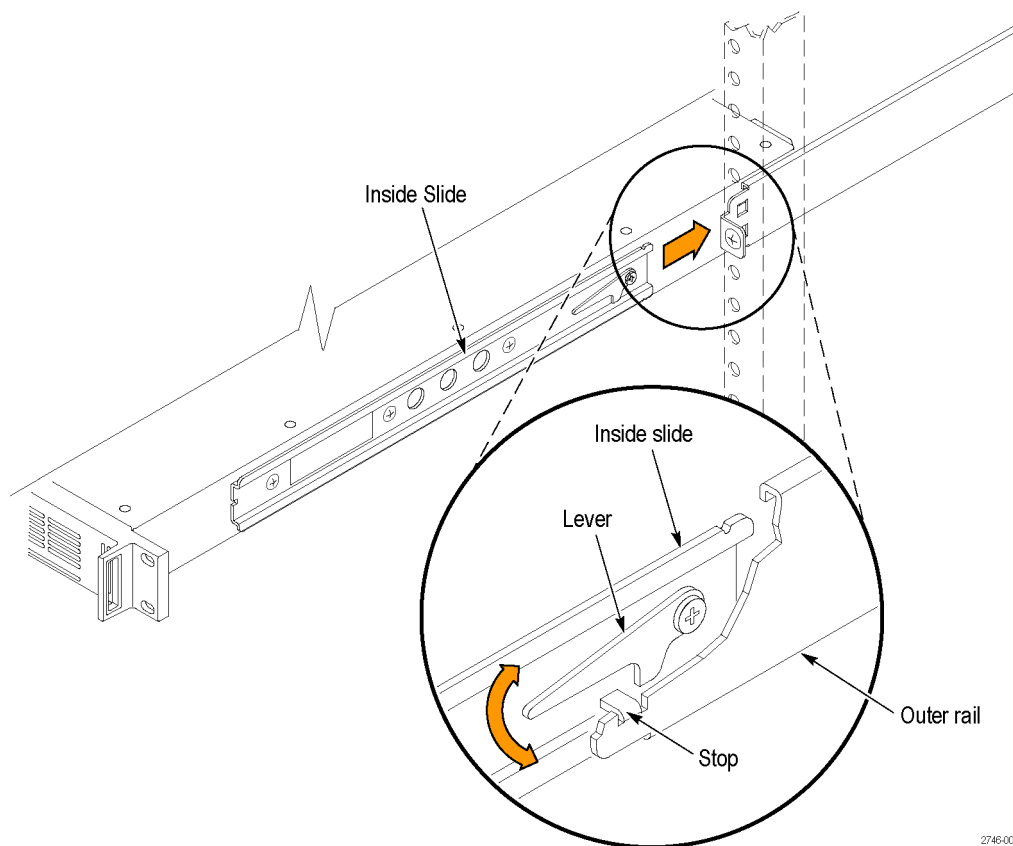

Figure 1: Installing or removing the instrument into or from the rack
1. Insert the instrument left and right slides into the ends of the rack rails while tilting the long handle part of each lever upward. (See Figure 1.)
3. Tilt both lever handles upward simultaneously to allow them to clear the stops. (See Figure 1.)